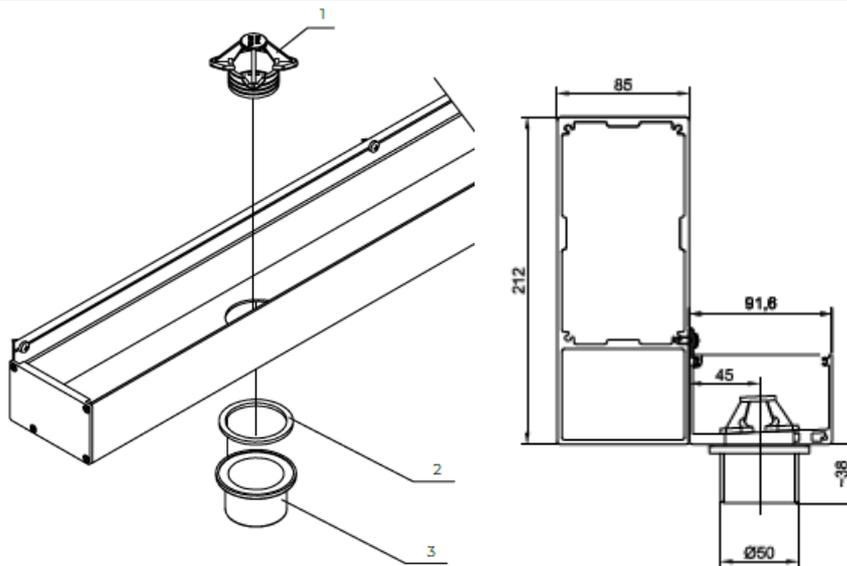

Figure 35
8. From above, insert the plastic basket drain (1) into the opening in the gutter - Fig. 35.
9. Place the factory gasket (2) on the plastic spigot element (3).